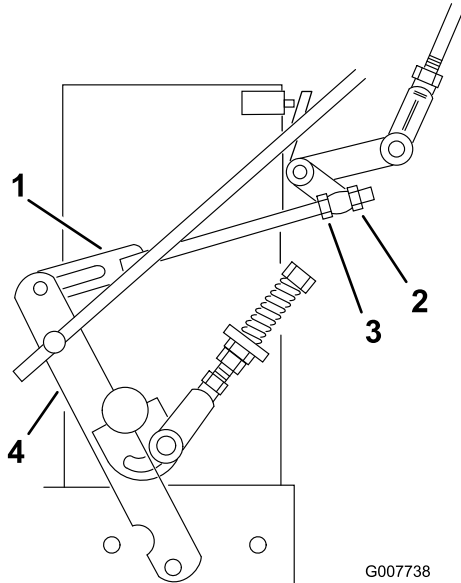

Figure 33
8. Loosen the front adjusting nut on left hydro control linkage as shown in Figure 33.
9. Turn the left rear adjusting nut counter-clockwise until wheel rotates forward (Figure 33).
10. Turn the rear adjusting nut clockwise 1/4 of a turn at a time. Then move the speed control lever forward and back to neutral. Repeat this until left wheel stops rotating forward (Figure 33).